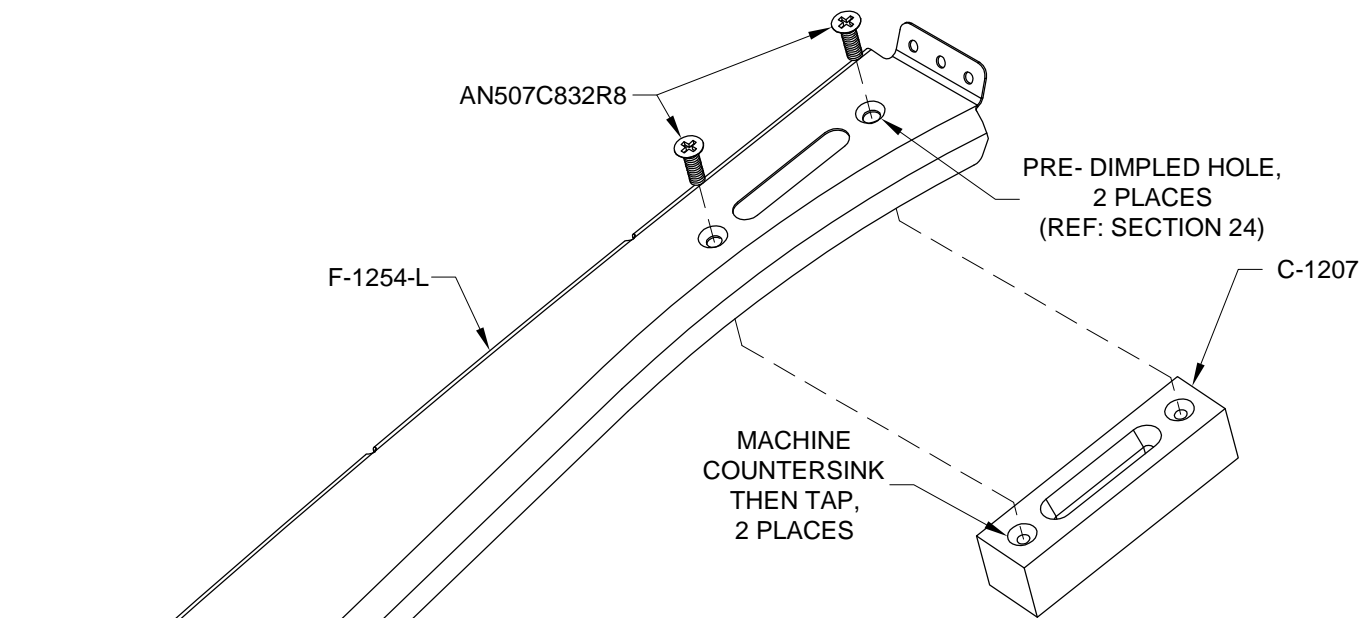

FIGURE 1:
Step 2: Install C-1207 Guide Blocks as shown in Figure 1.